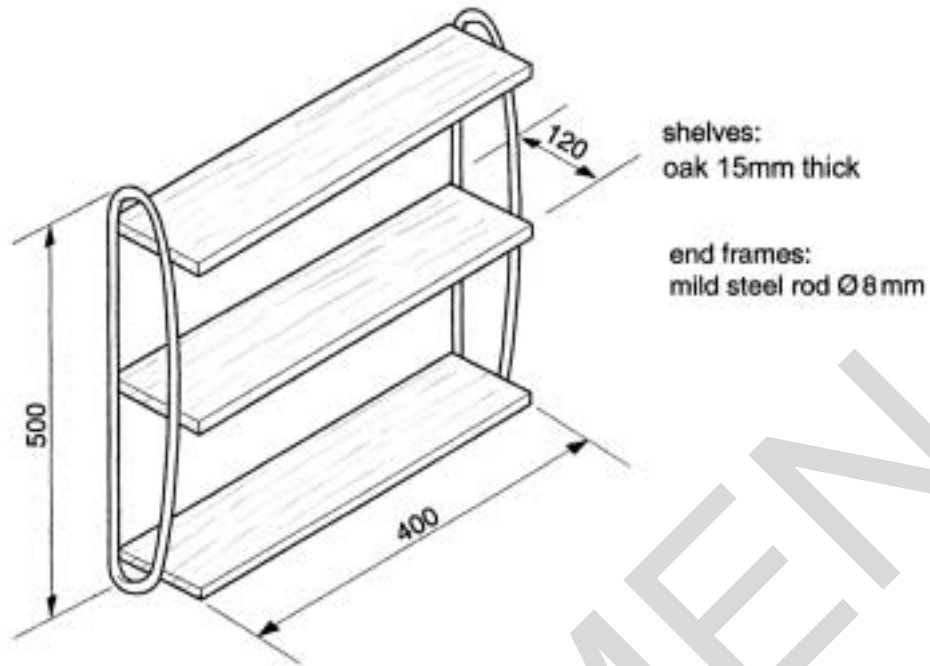

Fig.3
3 Fig.3 shows a wall-mounted shelf unit.
- (a) Many shelf units are made entirely from wood. Explain why the designer has used two different materials for the wall-mounted shelf unit shown in Fig. 3.